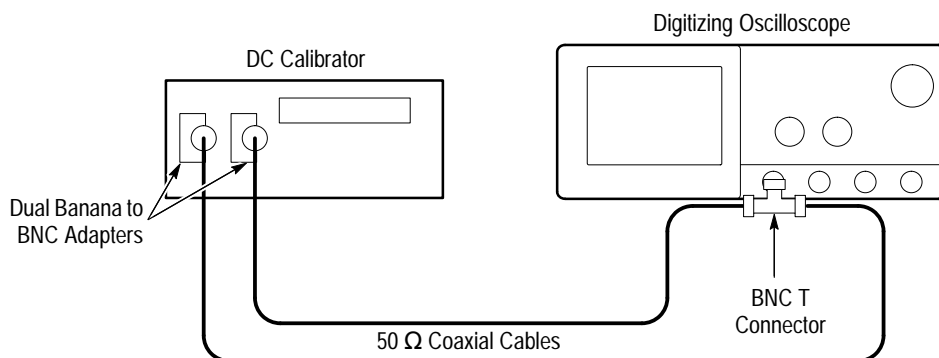

Figure 1–24: Subsequent Test Hookup
the other side of the BNC T connector. Now connect the BNC T connector to **CH 1**. See Figure 1–24.
- f. Press **CLEAR MENU** to remove the menus from the display. See Figure 1–25.